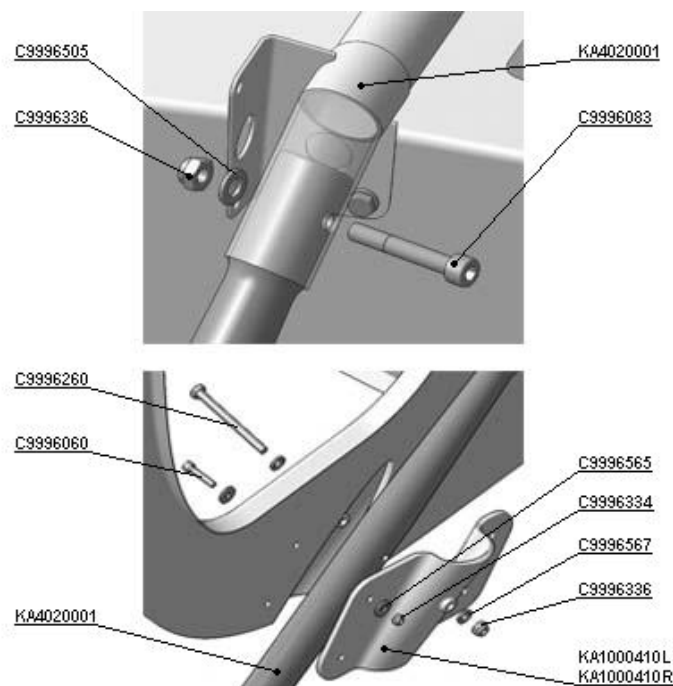

Fig. 9
2. Unscrew the nuts C9996336 (Self-locking nut DIN 985-M8, regular), Fig. 9, by a 10x13 wrench and 6 hex-nut wrench.
3. Unscrew the nuts C9996334 (Self-locking nut DIN 985-M6, regular), Fig. 9, by a 10x13 wrench and 5 hex-nut wrench.
5. Remove the reinforcement KA1000410 L (R) (Rear reinforcement), left (right).